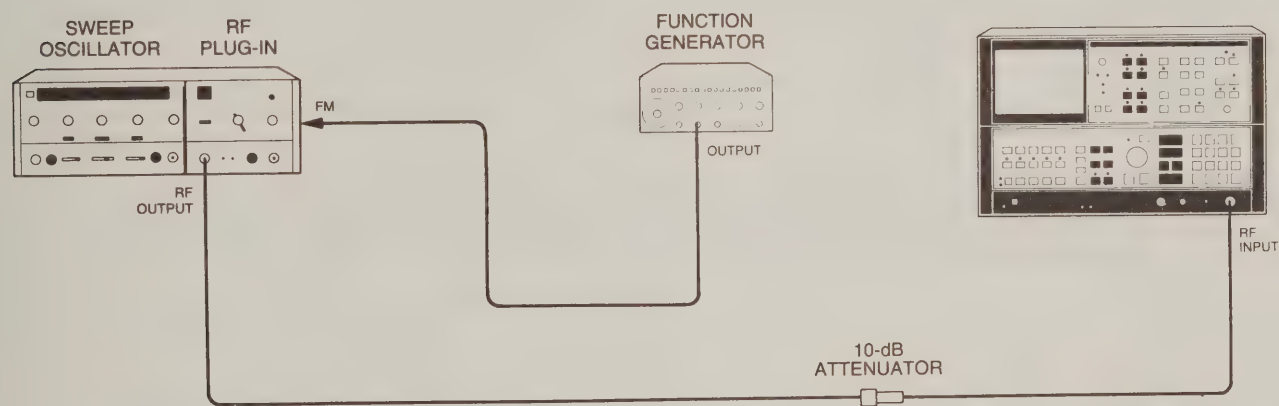

Figure 4-15. External Frequency Modulation Test Setup
- a. Connect equipment as shown in Figure 4-15. Set 8620C LINE switch ON and allow 30 minutes warm-up time.